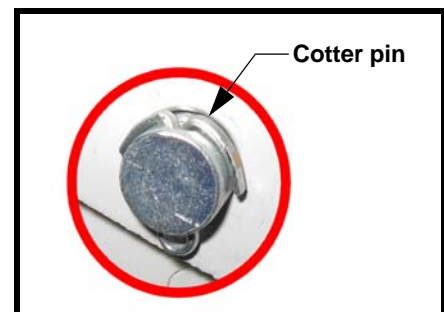

Fig. 17
- 11) Put back the flat washers and the actuator on its pivots and insert new cotter pins to secure the assembly. The cotter pins must be installed according to Fig. 17.